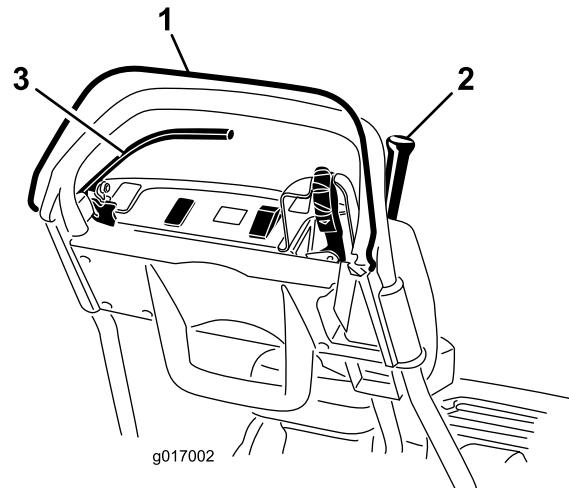

Figure 28
3. With the OPC released, attempt to engage the traction lever (Figure 28). The traction lever should not engage. If the traction lever engages, the interlock system needs service. Correct the problem before operating. Refer to Servicing the Traction Interlock Switch \(page 30\).
4. With the OPC depressed and the traction lever engaged, release the OPC (Figure 28). The traction lever should disengage. If the traction lever does not disengage, the interlock system needs service. Correct the problem before operating. Refer to Servicing the Traction Interlock Switch \(page 30\) or (page ).
OPC (Figure 28). The traction lever should disengage. If the traction lever does not disengage, the interlock system needs service. Correct the problem before operating. Refer to Servicing the Traction Interlock Switch \(page 30\), \(page \), or Adjusting the Reel Control \(page 34\).
- With the OPC depressed and the shift lever moved to the left to engage the traction and reel drive, move the shift lever to the right to disengage the reel drive (Figure 28). The reel drive should disengage. If the traction lever does not disengage, the interlock system needs service. Correct the problem before operating. Refer to Adjusting the Reel Control \(page 34\).
- With the OPC depressed, the traction lever engaged and the engine controls in the starting position (Figure 28). Attempt to start the engine. Engine should not start. If engine starts, the interlock switch needs service. Correct the problem before operating. Refer to Servicing the Traction Interlock Switch \(page 30\).
- With the traction lever disengaged, the service brake engaged and the engine controls in the starting position (Figure 28). Attempt to start engine. Engine should start. If engine does not start, the interlock switch needs service. Correct the problem before operating. Refer to Servicing the Brake Interlock Switch \(page 31\).
- With the engine running, engage the service brake (not the parking brake), depress the OPC and engage the traction lever (Figure 28). Engine should labor to overcome the brake but should not kill. If the engine kills immediately, the interlock switch needs service. Correct the problem before operating. Refer to Servicing the Brake Interlock Switch \(page 31\).
- With the engine running, engage the parking brake latch, depress the OPC and engage the traction lever (Figure 28). Engine should kill. If engine does not kill, the interlock switch needs service. Correct the problem before operating. Refer to Servicing the Brake Interlock Switch \(page 31\).